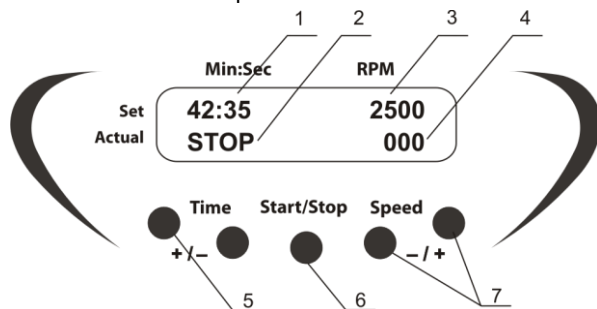

Figure 1. Control panel
- 5.4. Use the **+** and **- Speed** keys (fig. 1/7) to set the required speed (increment - 100 rpm). Holding down the key for longer than 2 s increases value change speed. The set value is displayed in the upper line of the display (fig. 1/3).
- 5.5. Use the **+** and **- Time** keys (fig. 1/5) to set the required working time interval in min & sec (increment - 1 min). Holding down the key for longer than 2 s increases value change speed. The set value is displayed in the upper line of the display (fig. 1/1).
- 5.6. Press the **Start/Stop** key (fig. 1/6). The platform will start vortexing and the timer indicator will start counting the time interval in the lower line of the display - **Actual** (fig. 1/2).
- 5.7. If the working time is not set (or is reset) and the display shows 00:00, pressing the **Start/Stop** key will cause the unit to operate continuously until the **Start/Stop** key is pressed. Actual value of the platform speed is displayed in the lower line of the display (fig. 1/4)
- 5.8. After finishing of the program (after the set time elapses) the platform motion will stop and flashing reading "STOP" will appear in the lower line of the display accompanied by the repetitive sound signal until the **Start/Stop** (fig. 1/7) key is pressed.